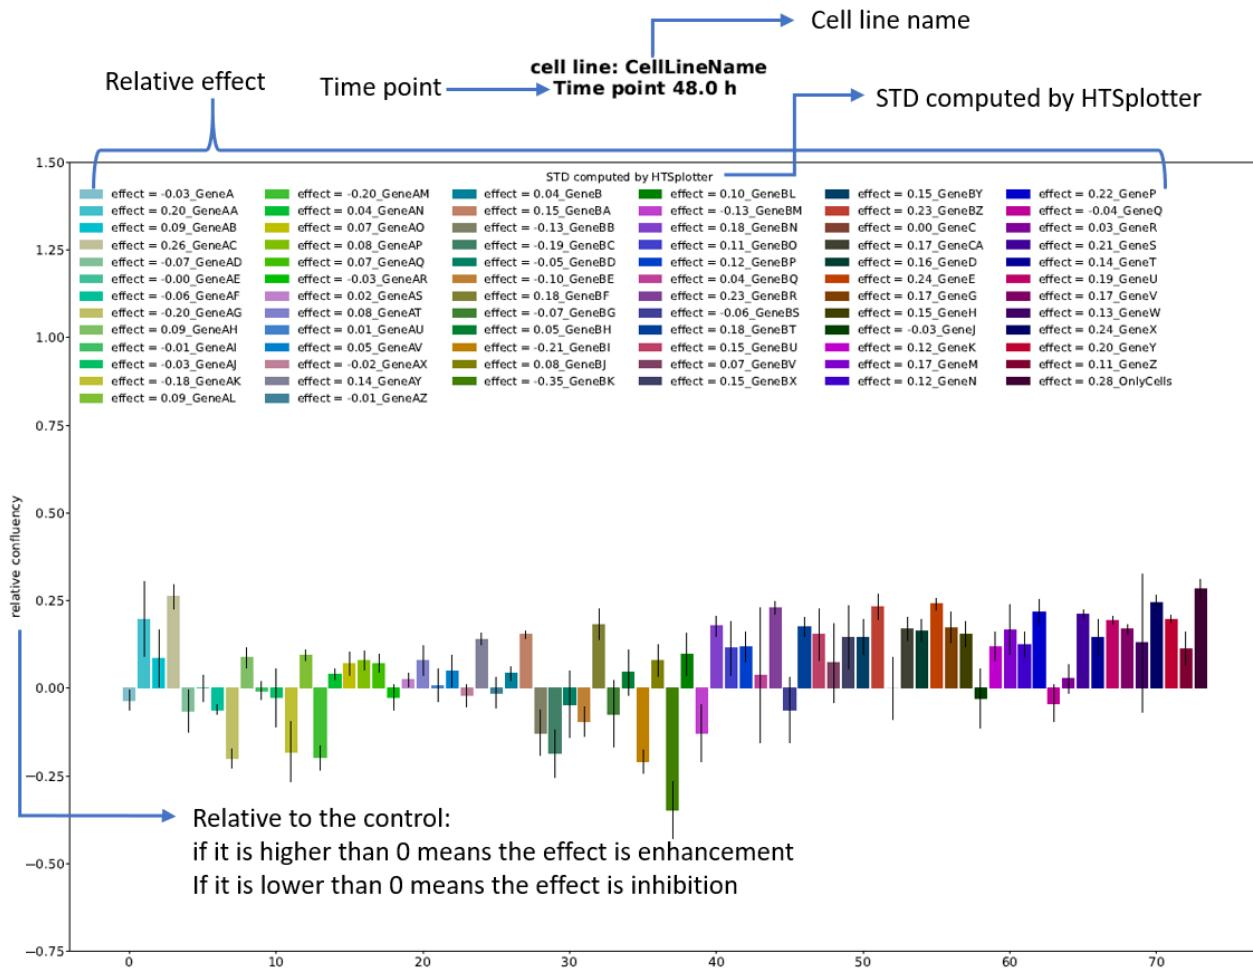
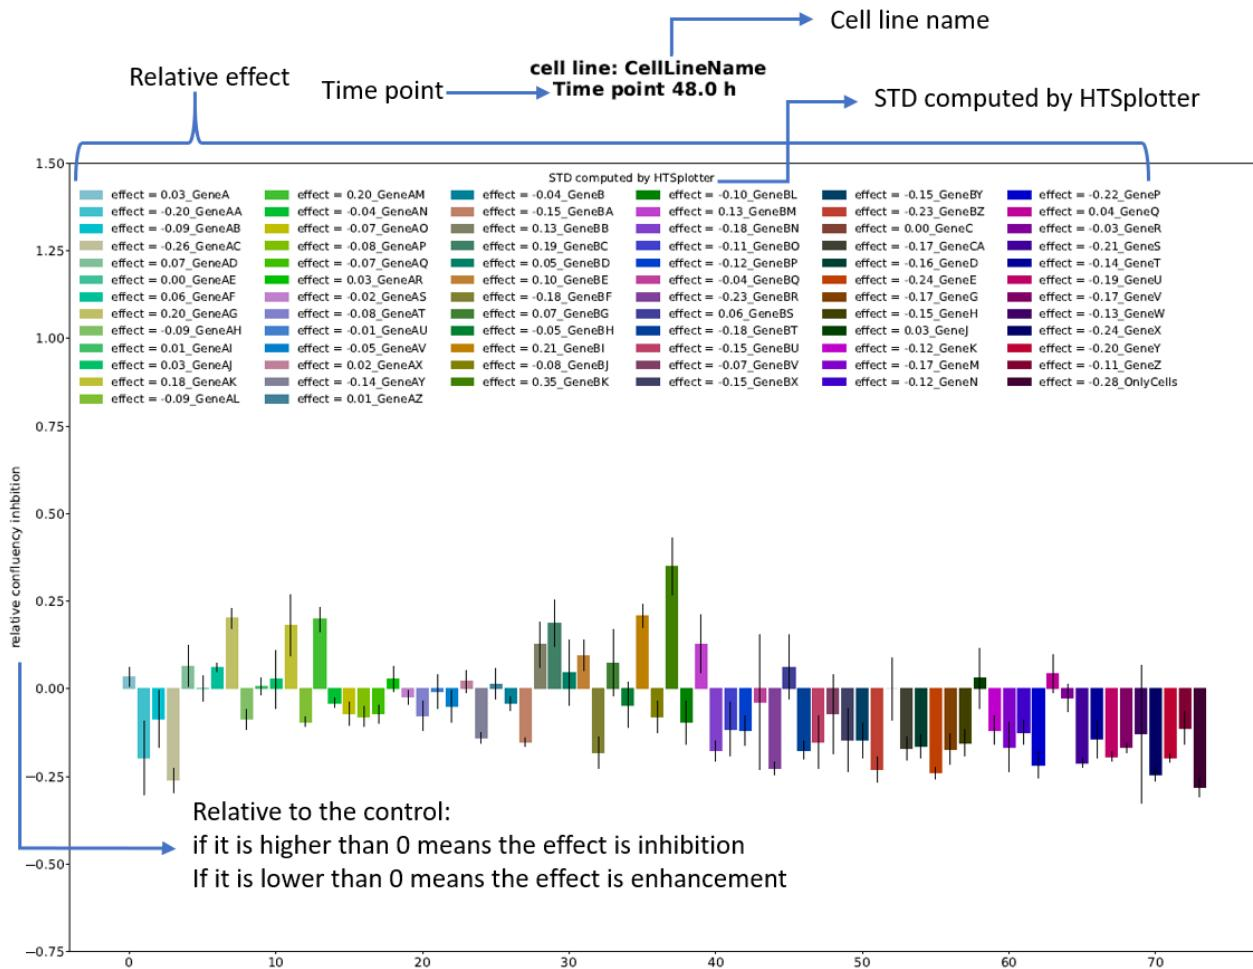

Figure 36: Inhibition effect of all genetic perturbagens plotted. On the legend, the inhibition effect relative to the control is shown.
Figure 37: Effect of all genetics perturbagens plotted. On the legend, the effect relative to the control is shown.
- Bar plot is with all perturbagens, shown as inhibition (Figure 36) or as enhancement effect (Figure 37).